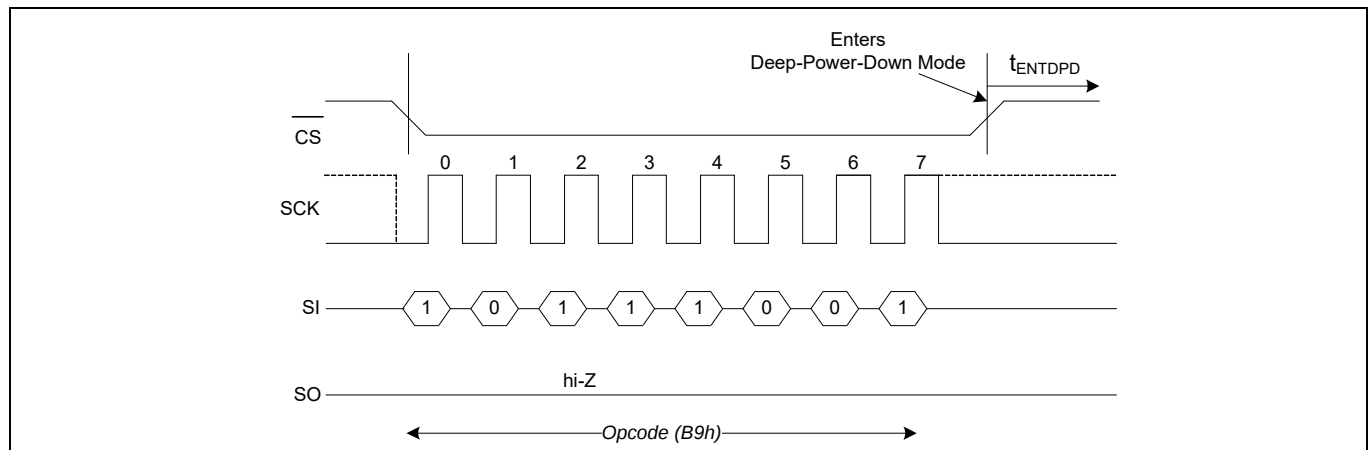
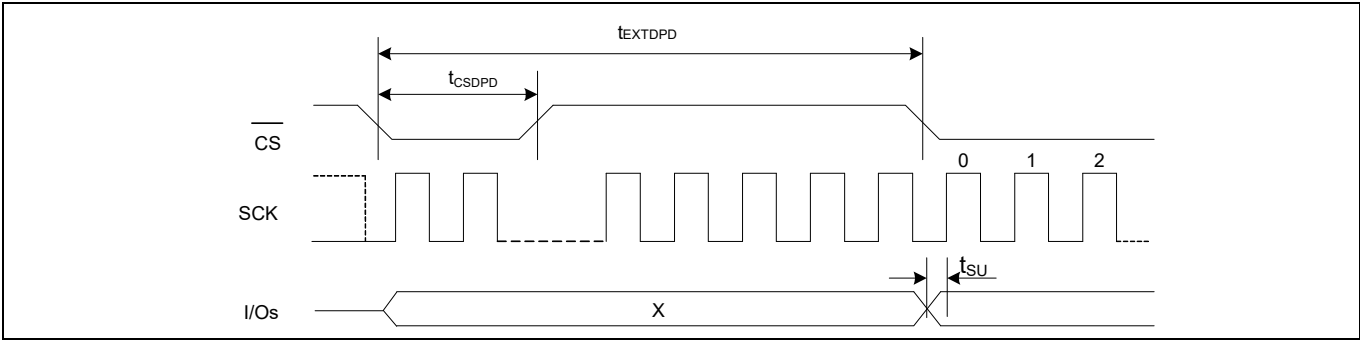

Figure 99 DPD entry in SPI mode
Figure 102 DPD exit in SPI mode
A $\overline{CS}$ pulse-width of t_{CSDPD} or hardware reset exits the DPD mode after t_{EXTDPD} time. The $\overline{CS}$ pulse-width can be generated either by sending a dummy command cycle or toggling $\overline{CS}$ alone while SCK and I/Os are don't care. The I/Os remain in hi-Z state during the wakeup from deep power down. Refer to Figure 99 for DPD entry and Figure 102 for DPD exit timing.
- The timing details shown in the Figure 99 are applicable as is in DPI and QPI modes.